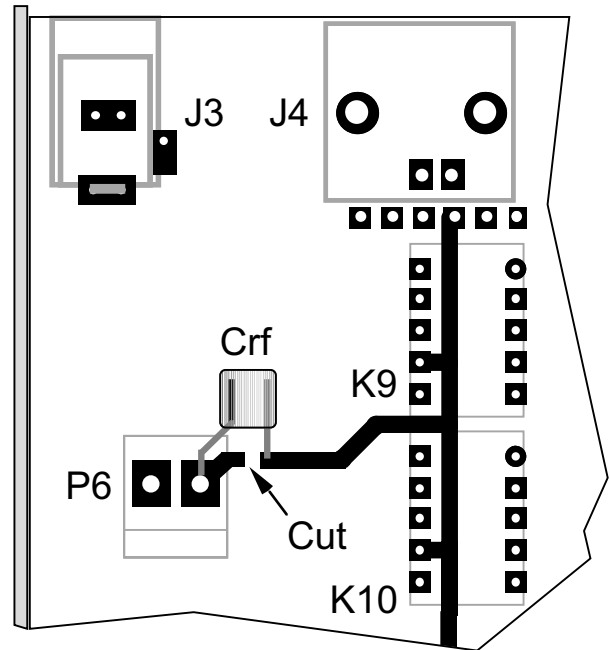

Figure 4
- Add CRF (.047, "473") on the bottom of the RF board as shown in Figure 4. One trace cut is required. (This capacitor is important if you have a KBT2 internal battery or KPA100 module. It prevents damage to the K2's low-pass filter relays in the event that the AUX RF and AUX DC cables are reversed. On the Rev. B RF board, the capacitor is C224.)